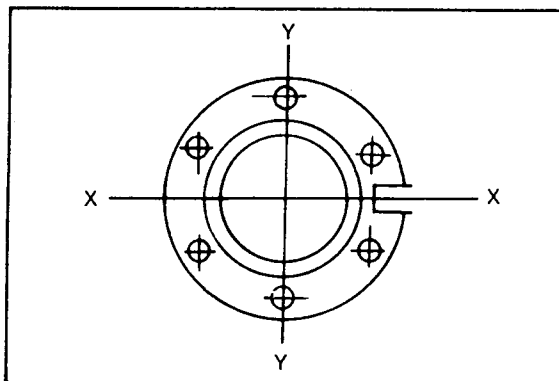

Figure 3
(1) Inside diameter of bearing.
- a) With an inside micrometer, measure the four points as shown in Figures 3 and 4.